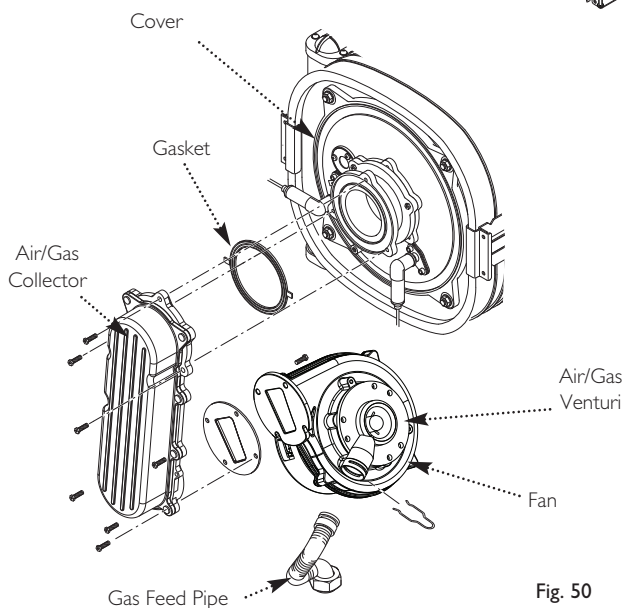

Fig. 50
13.2 Fan (Fig. 50)
13.3 Air/Gas Venturi (Figs. 50 & 51)